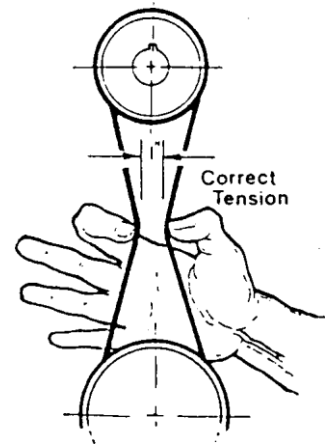

Fig. 3
5. Pull down on the motor to achieve the desired belt tension. The correct belt tension is achieved when the belt can be deflected approximately one inch at the center belt span using light finger pressure as shown in Figure 3.